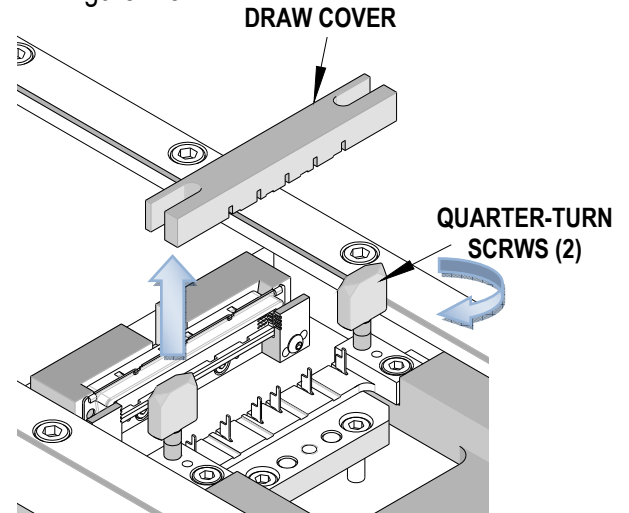

Figure 2-5
4. Remove the drawer cover by turning the two quarter-turn screws 90° so that the head of the screw can be inserted into the slot on the cover and the cover can be pulled up. See Figure 2-5.